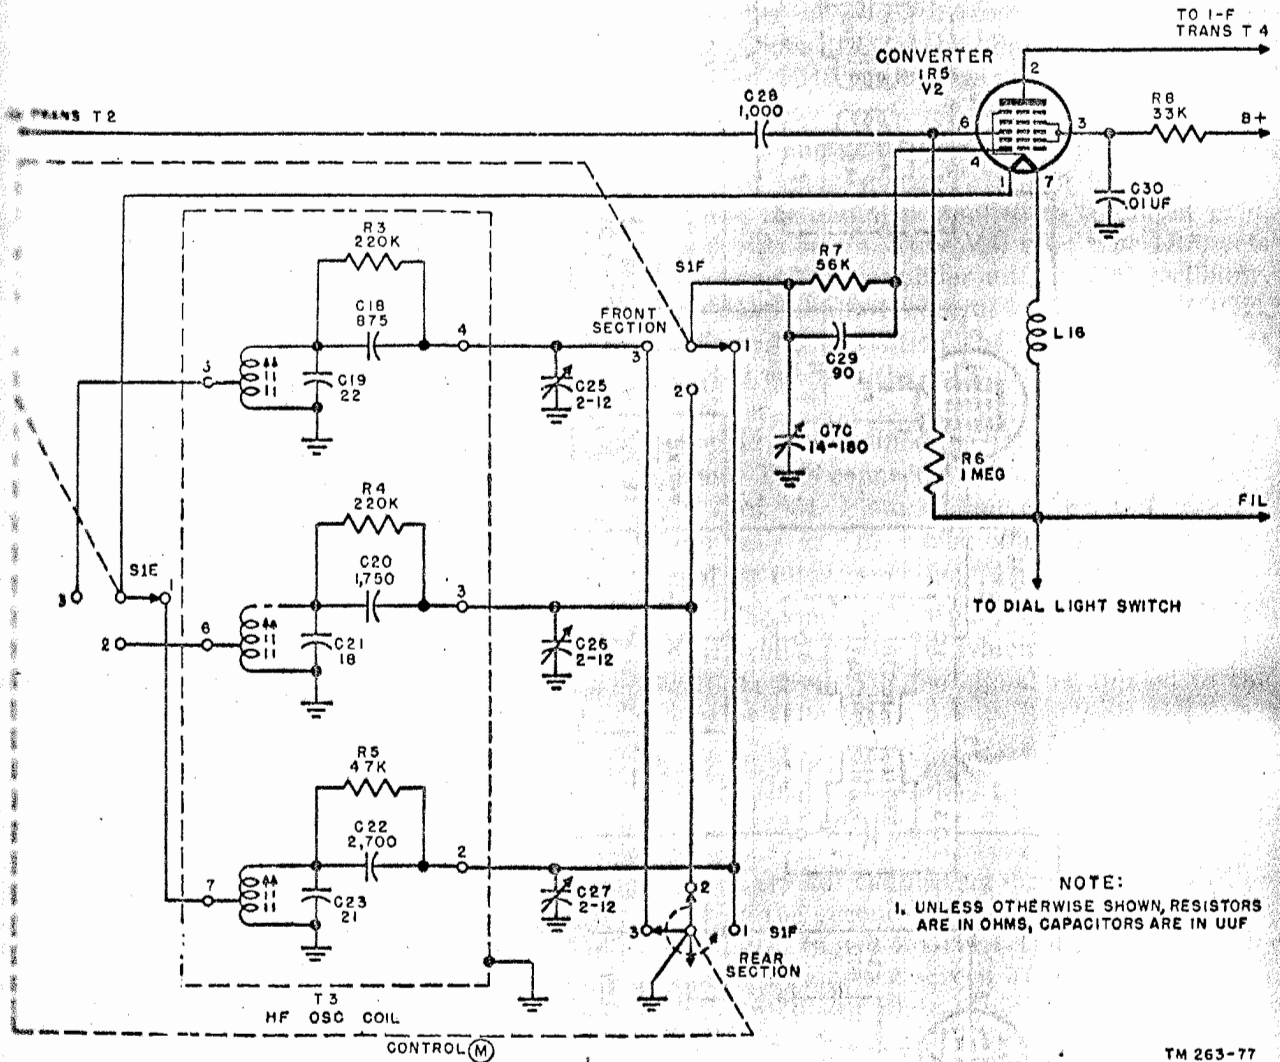

Figure 58. Converter stage, simplified schematic.
33. Converter Stage V2 (fig. 58)